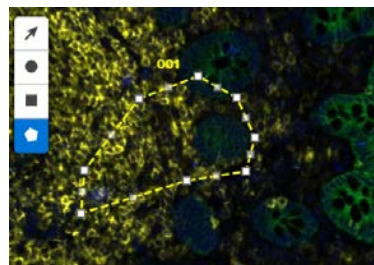

Figure 34: Scan Workspace polygon button
1. **Select the polygon button** from the Scan Workspace (see Figure 34).